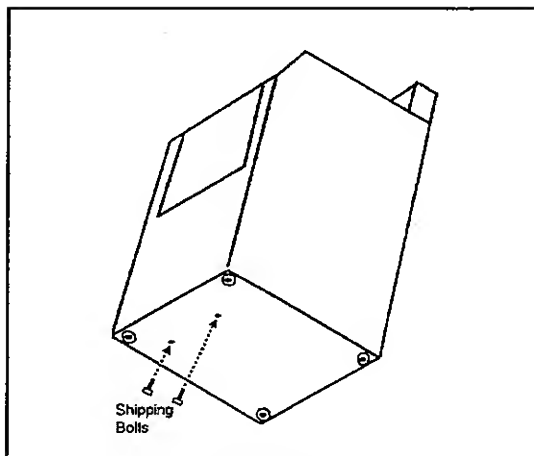

Figure 1-4
3. Locate the two (2) 1/2" hex-head shipping bolts extending up through the bottom of the base (Figure 1-4). The shipping bolts are near the center of the base toward the front of the washer. Remove both bolts, freeing the tub and suspension. Do not be alarmed should the tub assembly shift when the last bolt is removed. Some shifting of the tub is normal.